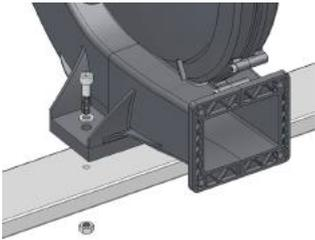

FIGURE 6
1. Secure the blower to a plant/machine using M10 bolts (not supplied). We recommend the use of a washer of appropriate size (FIGURE 6).